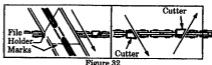

Figure 32
- b.) Align the 30° file holder marks with the bar and parallel to the center of the chain. Figures 32 & 34.